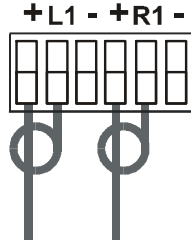

Figure 4: Connecting the Unbalanced Stereo Audio Output
- An unbalanced audio output (see Figure 4)
Figure 4 illustrates how to wire an unbalanced acceptor to the balanced output of the unit (for example, AUDIO OUTPUT 1):